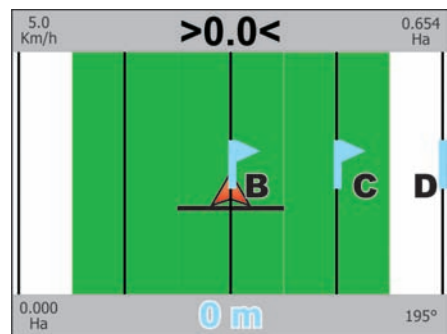

Fig. 286
- When reaching the flag the distance value becomes "zero" (Fig. 286): press **OK** to receive information to reach the following point (**C** in Fig. 286), or **ESC** to quit the procedure.